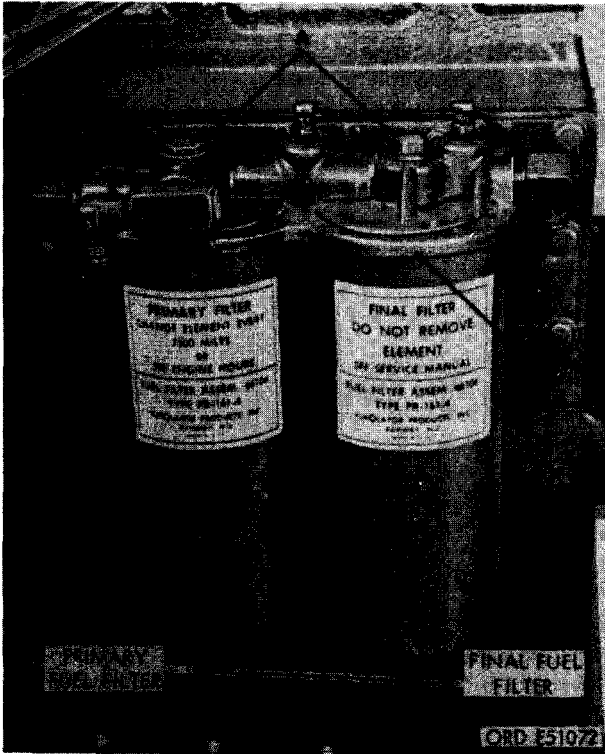

FIGURE 228. REMOVE OR INSTALLING. PRIMARY AND FINAL FUEL FILTER ELEMENTS.
- (3) Figure 228. (A) Remove nuts, flat washers, and preformed packings securing primary and final fuel filter cases to fuel filter head. Remove preformed packings from nuts and discard packings. (B) Remove primary and final fuel filter cases. Remove and discard fuel filter elements. (C) Remove and discard fuel filter head preformed packings.